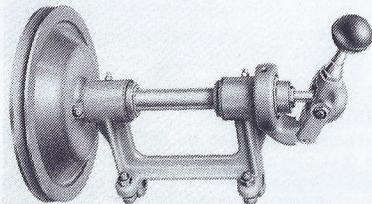

Fig. 21. Countershaft Clutch Unit.
**NOTE** Single phase motors are not suitable for applications where very frequent stopping and starting is involved. Any ML.7 machine which is required for use under such conditions and with single phase electrical supply, should be fitted with a No. 1466 MYFORD Countershaft Clutch Unit Fig. 21, which will greatly reduce the burden on the motor.